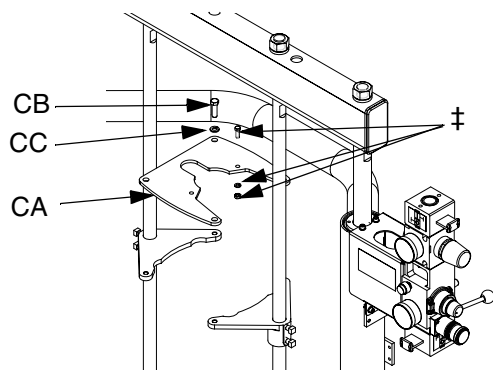

FIG. 7
1. Position the mounting brackets (42) so that the top of the pump will clear the support beam (4).
2. For President and Monark Check-Mate 450 Pumps *only*, install the mounting plate (CA) from kit 224829 onto the mounting brackets (42) using four screws (CB) and lockwashers (CC). See FIG. 7.